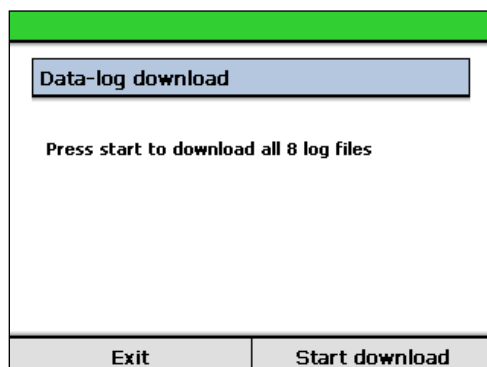

Figure 35 **Data-Log Download Screen**
- 2] From the main menu, enter the 'Data-logging' sub-menu and select 'Download data to USB'. The data-log download screen will be shown as per Figure 35.